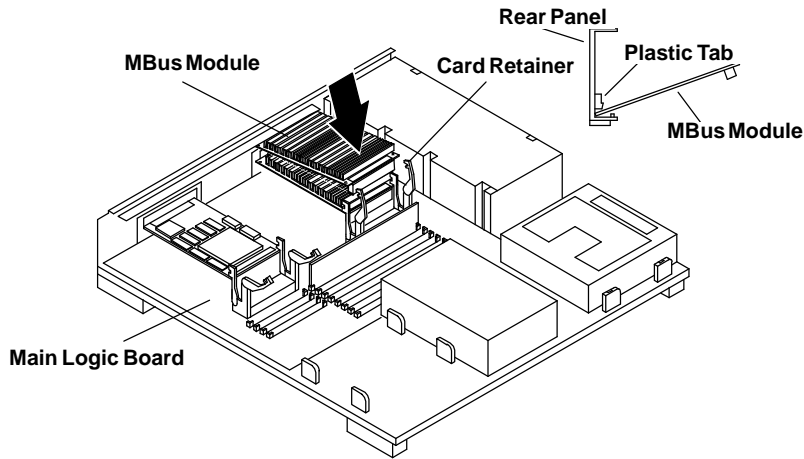

Figure 3-11. Installing the MBus Module
2. Make sure the card retainers for the module are pushed back. Refer to Figure 3-11.
The connector on the module should be facing MBus slot 1, the upper slot. Refer to Figure 3-11.
5. Push the module connector down into the socket as shown in Figure 3-11. Hold the corners of the MBus module and press down firmly until the module is seated.